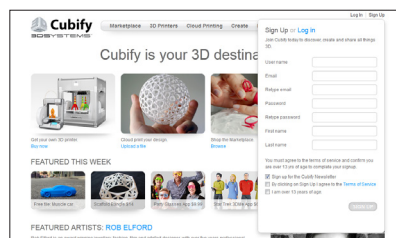

Fig. 13
- To create an account, type in **Cubify.com** in your web browser and click on **Sign Up** to open the registration form. If you already have an account, click on **Log In** and provide your User ID and Password. (Fig. 13)